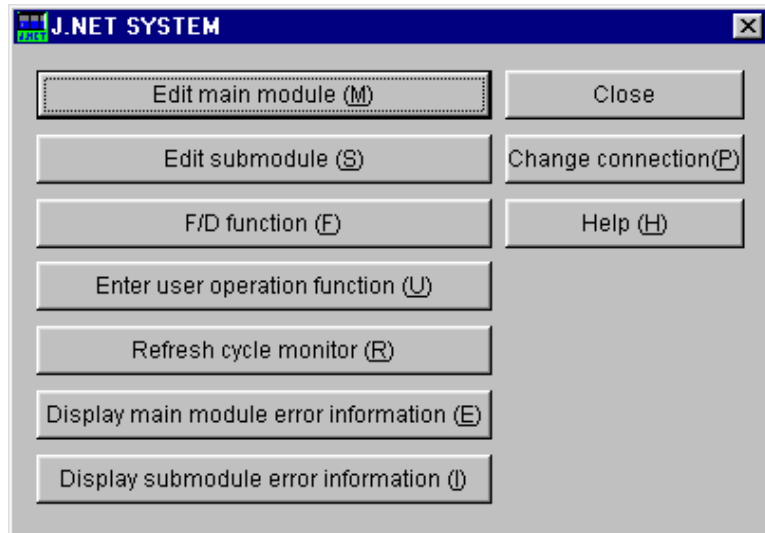

Figure 2-1 [J.NET SYSTEM] Window
J.NET can be terminated by clicking the or button on the [J.NET SYSTEM] window shown in Figure 2-1.